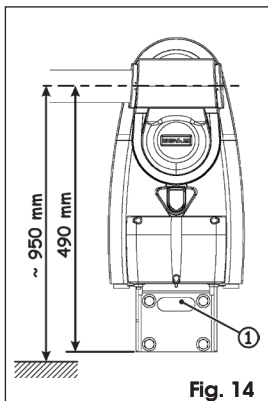

Fig. 14
In on-wall applications, the electric cables can be embedded in the wall, allowing them to come out of the pocket (Fig. 14 ref. ①), or they can be installed externally, using adequate tubes or sheaths. To ascertain the position of the cables, refer to chapter 4.3.1.
1. Define the position of the bracket, taking into account the dimension of Fig. 14. We advise you to install the automated system so that the rod is at a height of about one meter off the ground.